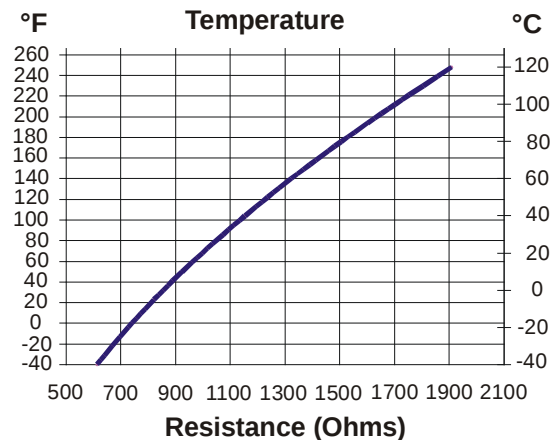

Figure 8: Temperature vs. Resistance Chart for the A99B Series Sensor
- Refer to Figure 8 to determine the optimal resistance for the measured temperature.
- If the sensor's resistance conforms to the chart in Figure 8, reconnect the sensor to the control.